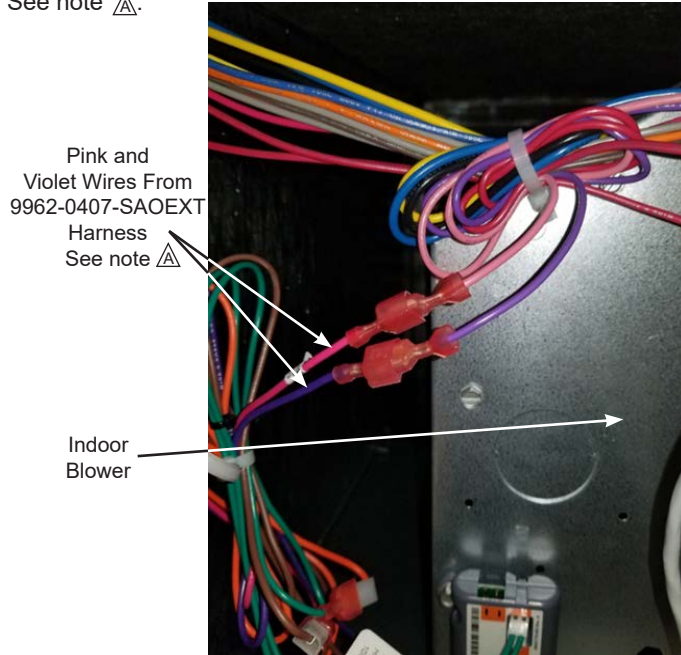

Figure 16 – Connect Pink and Violet Wires in Indoor Blower Section
Step 20: Connect the pink and violet wires from the 4-wire 9962-0407-SAOEXT harness to the pink and violet terminals in the wire bundle in the indoor blower section. See Figures 16 and 18. See note ⚠.